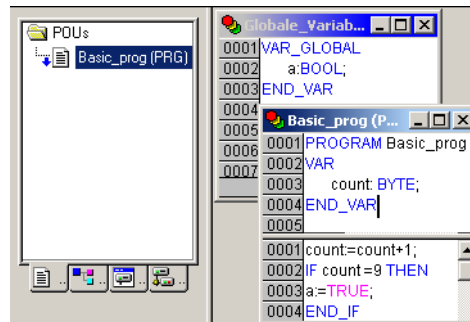

Figure 31: Creating a program element for a cyclic task
- ▶ You can now enter a program. In the program example (Figure 31) the variable “count” is incremented.